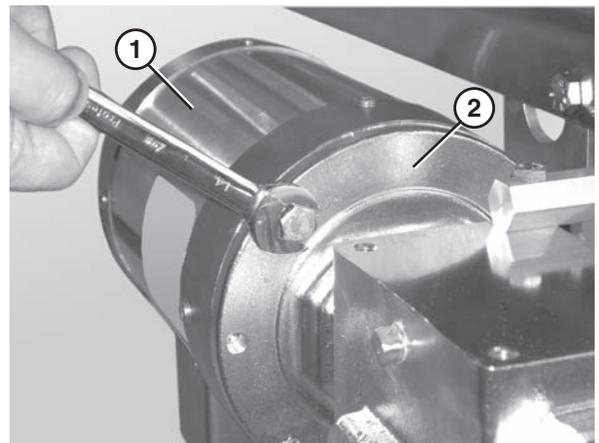

Figure 50
2. Remove the bolts that connect the motor to the drive assembly (**Figure 50**).
3. Remove the motor (**Figure 50, item 1**) from the drive assembly (**Figure 50, item 2**).